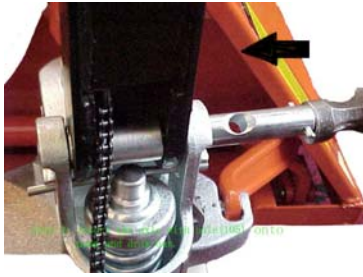

Fig. 2
2.1 Insert the draw-bar onto the pump piston (303), then use a hammer to insert the axle with hole (G105) into the hydraulic pump and draw-bar **from the right to left**. (See fig. 2).